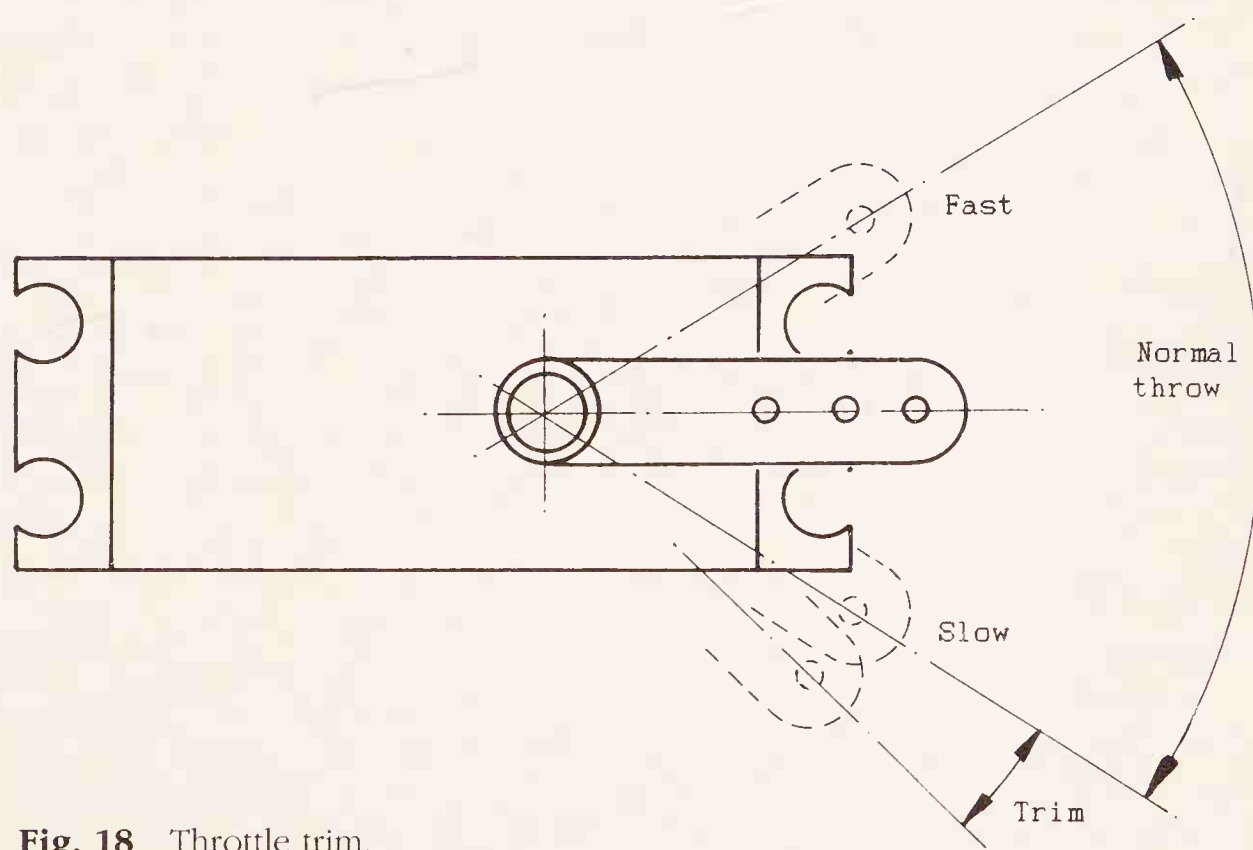

Fig. 18 Throttle trim.
- (a) A 'throttle trim' which is only effective on the lower end of the throw and controls tick-over, or idle, speed (Figure 18).